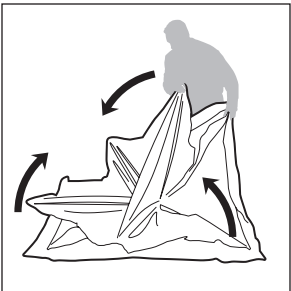

FIGURE 8
3. Blind will be back in its flat stage just as it was when it was unfolded out of the backpack bag. Gather all corners of the blind and fold together. **SEE FIGURE 8.** Do not force the blind when folding. Watch for entanglement of poles.